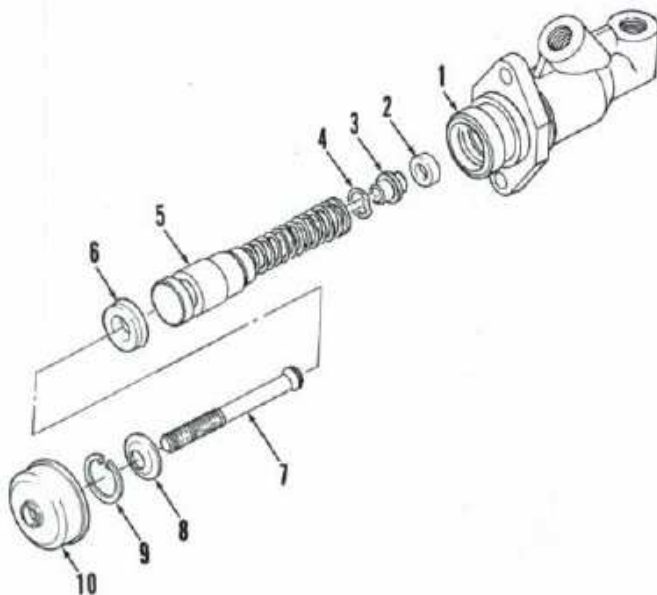

Fig. 82—Exploded view of clutch master cylinder used on models equipped with cab.
To disassemble the master cylinder, first remove locknut from push rod (7—Fig. 82). Remove rubber boot (10), snap ring (9), retaining washer (8) and push rod (7). Remove plunger and spring assembly from cylinder housing (1). Remove seals (2 and 6) from plunger assembly. Clean and inspect all parts. A service kit consisting of seal (1), wave washer (4), seal (6), retaining washer (8), snap ring (9) and rubber boot (10) is available. If plunger or cylinder housing shows